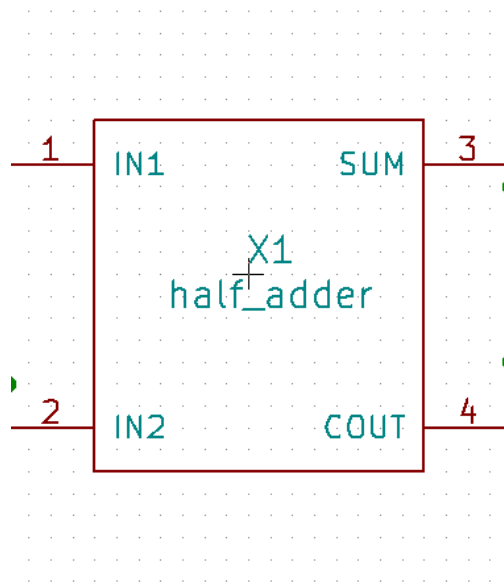

Figure 8.8: Half-Adder Subcircuit Block
4. Start drawing the subcircuit block. Update and save it as shown in Fig. 8.8.